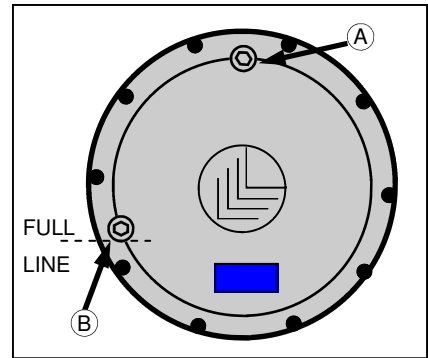

FIG 7.2B-1
**OIL LEVEL**— Each wheel hub should maintain a proper oil level at all times. Less than that would limit lubrication and over full would cause overheating and damage. To check the oil level, position the hub so one of the face plugs is positioned at 12 O'clock (fig. 7.2B-1, item A). The other plug will be either at 8 O'clock (fig. 7.2B-1, item B). (When positioned correctly the arrows in the center of the hub should make an "L".) Remove the lower plug; if no oil comes out, the oil level is too low. Check wheel hub oil level every 100 hours.